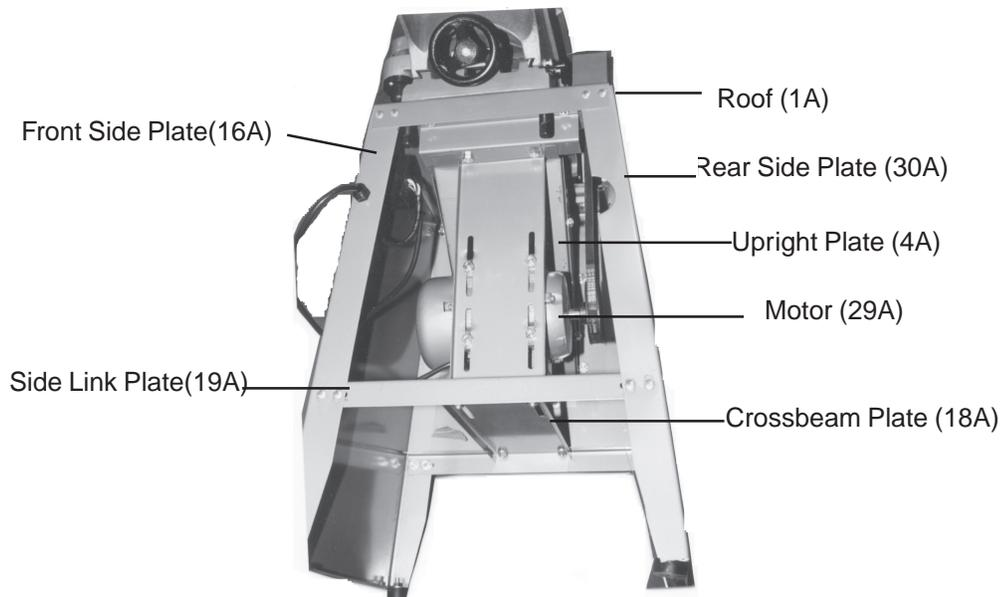

Figure 1
- Step 1) Attach the Front Side Plate (#16A) to both of the Side Link Plates (part #19A). Insert two Screws (#17A) through Front Side Plate and through Side Link Plate. Slide on Washers (#7A) and Nut (#6A). Tighten into place. Repeat for the other side - see Figure 1.
- Step 2) Attach the Rear Side Plate (#30A) to each of the Side Link Plates (#19A). Tighten it into place with two Screws (#17A) and attach Washers (#7A) and Nuts (#6A) on inside. Repeat for other side-see Figure 1.
- Step 3) Set the Crossbeam Plate (#18A) so that it sits on top of each of the Side Link Plates (#19A). Insert two (2) Screws (#17A) through the Crossbeam Plate (#18A) and Side Link Plate. Slide on Washers (#7A) and Nuts (#6A). Tighten into place. Repeat for other end of Crossbeam Plate- see Figure 1.
- Step 4) Set the Roof (#1A) on top of the Side Plates. Insert two Screws (#17A) at each corner. On the inside slide on Washer (#7A) and Nut (#6A). Secure in place-see Figure 1.
Step 11) Attach the Upper Link Plate (#2A) to the Roof (#1A) with Screw (#17A) inserted downward. Slide on Washer (#7A) and tighten on Nut (#6A)-see Figure 1.
Step 12) Slide the Left Protecting Plate (#26A) on and tighten it into place with six (6) Screws (#17A). Fasten on the inside with Washers (#7A) and Nuts (#6A). Make certain that the lips at the top of the Tapping Plate (#25A) are positioned under the Upper Link Plate (#2A) as in Figure 1.
Step 13) Attach the Motor (#29A) to the Upright Plate (#4A) making certain that the Screws (#17A) are placed at least half way up the Plate (#4) on the side opposite the lips. You will have to move the Motor (#29A) later when tensioning the Belt. Secure in position with Washer (#7A) and Nut (#6A)-see Figure 1.
Step 15) Attach three (3) Lock Plates (#24A) to the Right Protecting Plate (#8A). Slide the Plate onto the Frame and twist the Lock Plates so that the Right Protecting Plate is securely in position.